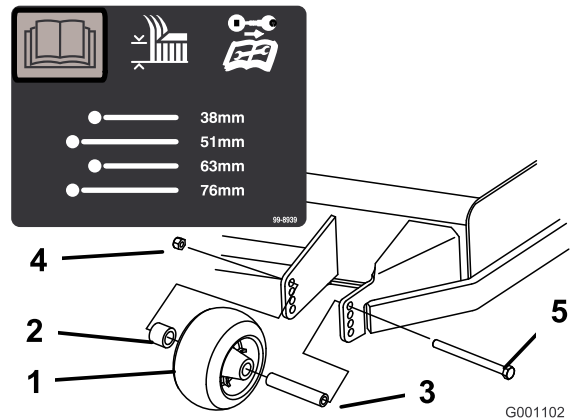
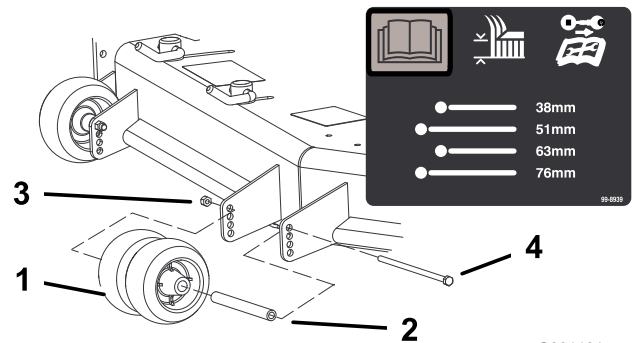
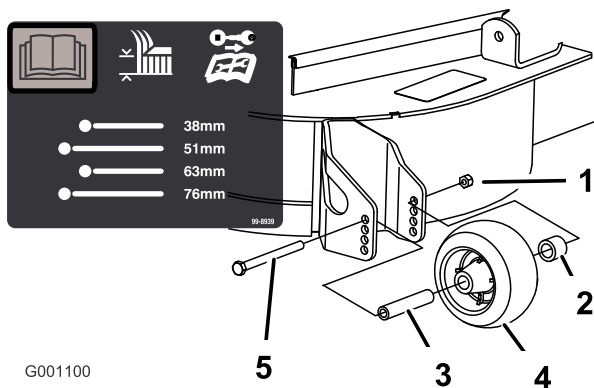

Figure 20
Figure 21
Figure 22
3. After adjusting the height-of-cut, adjust the rollers by removing the flange nut, bushing, spacer, and bolt (Figure 20, Figure 21, and Figure 22).
Note: The two middle rollers will not have a spacer (Figure 21).
5. Install the flange nut bushing, spacer, and bolt. Torque to 54-61 N-m (40-45 ft-lb) (Figure 20, Figure 21, and Figure 22).